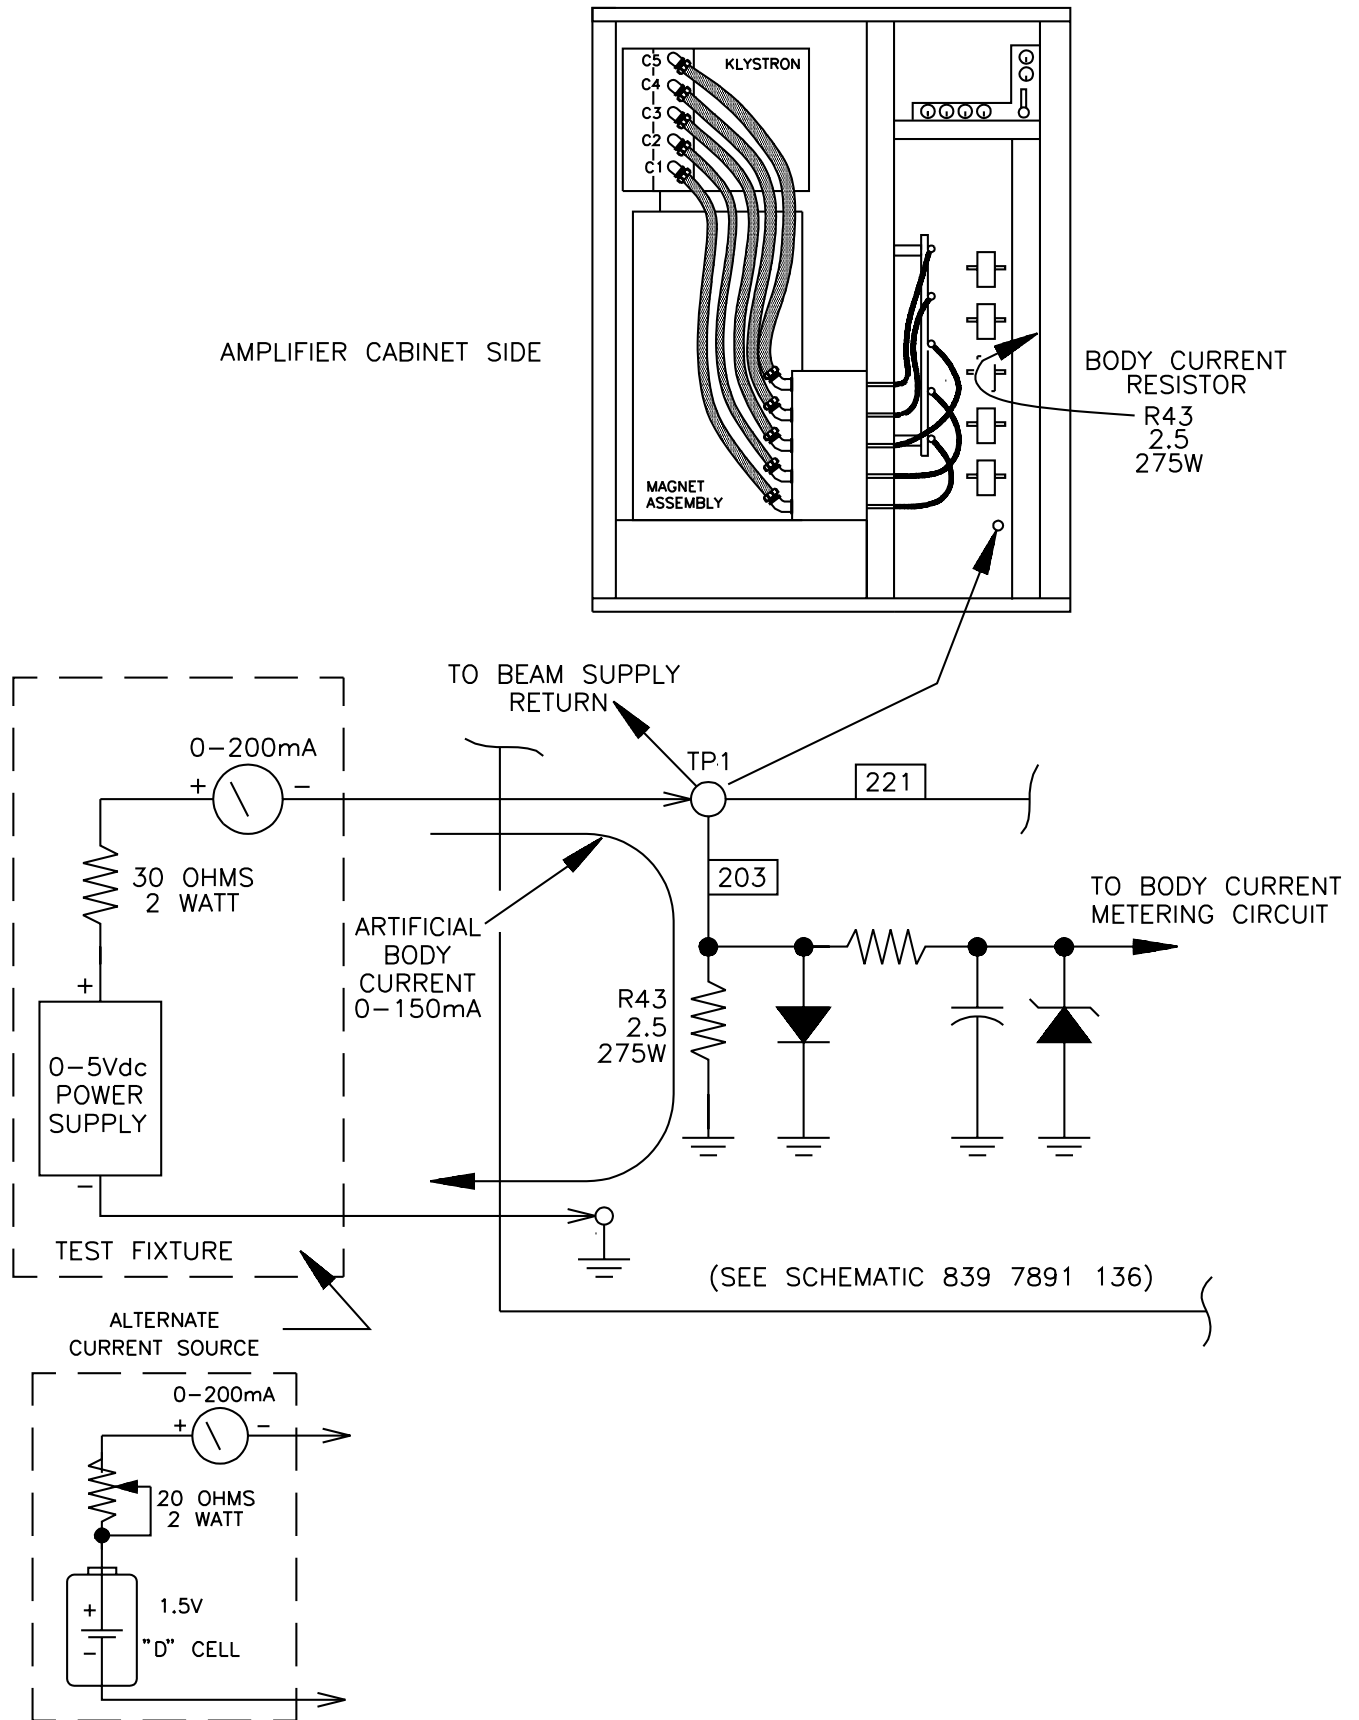

Fig. 3-9. Technique for Checking Body Current Circuit
- a. USE AN EXTERNAL VARIABLE CURRENT SOURCE CAPABLE OF PRODUCING 200MA AT APPROXIMATELY 1VDC. A STANDARD SIZE BATTERY AND A 20 OHM POT WIRED AS SHOWN IN FIGURE 3-9 WILL SUFFICE. USING ALLIGATOR CLIPS OR OTHER SUCH TEMPORARY ATTACHMENTS, CONNECT THE POSITIVE LEAD TO TP1 AND THE NEGATIVE LEAD TO GROUND. TP1 IS LOCATED JUST BELOW THE HALL EFFECT SENSORS IN THE COMPARTMENT IN FRONT OF THE KLYSTRON AND IS THE TERMINAL THAT THE RETURN LEAD FROM THE BEAM SUPPLY IS CONNECTED. MAKE THE TEMPORARY LEADS LONG ENOUGH SO THAT THE POTENTIOMETER CAN BE ADJUSTED WHILE OBSERVING THE BODY CURRENT METER ON THE FRONT OF THE TRANSMITTER.